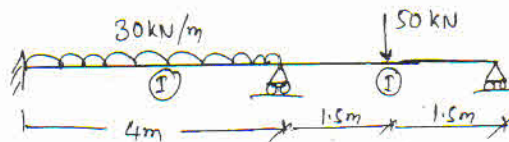

Fig Q6
- 6 Analyse the continuous beam shown in Fig Q6. Using flexibility matrix method. Sketch BMD. (20 Marks)